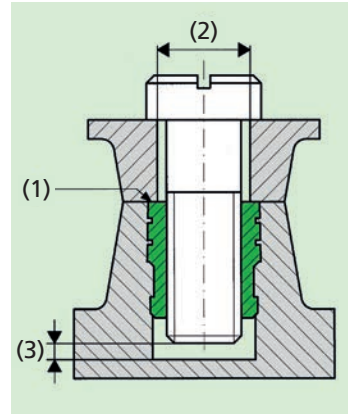

Fig. 16
The part requiring fastening should be flush with the threaded insert, see (1, fig. 16). For this reason the **bore-hole (2) should be closely dimensioned and not countersunk**. The Mubux®-A press in flush into the formed part (1).